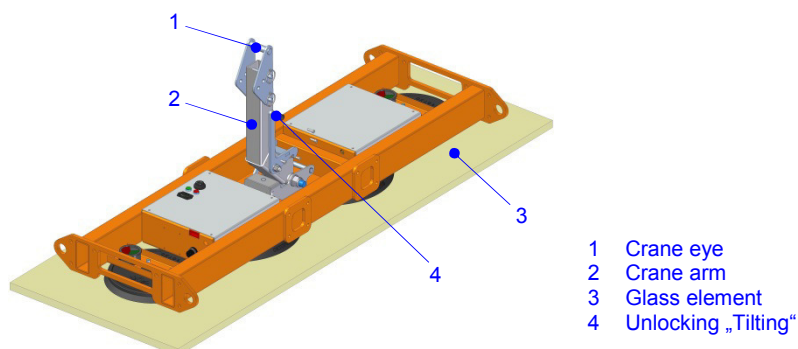

Fig. 9: OKTOPUS® GLASS-Jack GL-LN 700 with horizontal glass element
- ⇒ Remove the unlocking „Tilting“ (see Fig. 9) and move the crane with the OKTOPUS® GLASS-Jack GL-LN 700 towards the elements. Place the OKTOPUS® onto the topmost element.